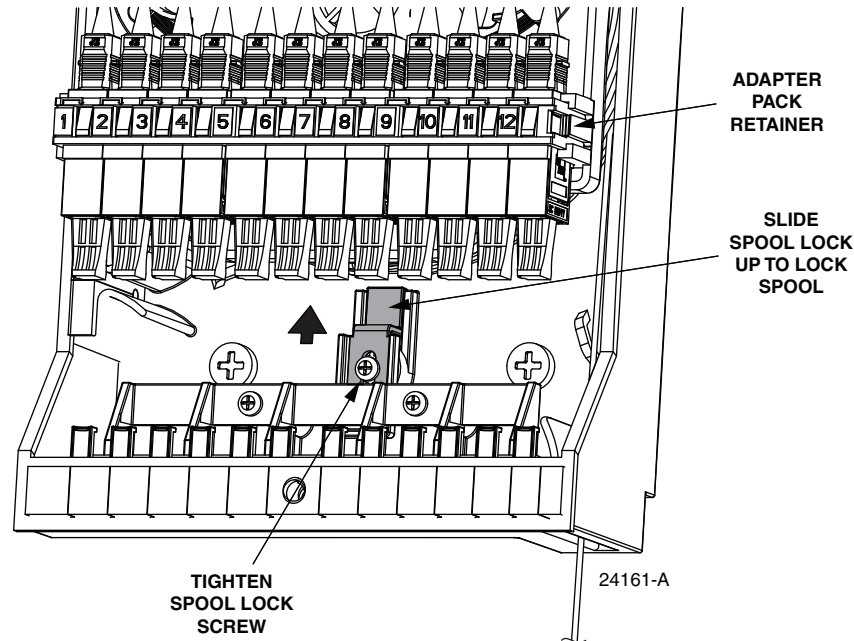

Figure 14. Locking the Spool
7. Position the spool and lock it in place as shown in Figure 14.